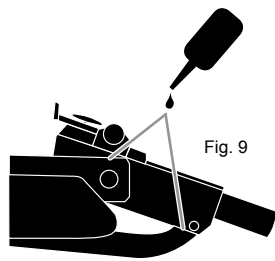

Fig. 9
WORKING PARTS: The working parts, like piston and mainspring require very little lubrication. Two (2) drops of RWS Chamber Lube every 1000 shots will suffice. It is easily applied through the compression chamber port with a 3 1/2" applicator needle (See Figures 8a & 8b). The wearing surfaces at the barrel hinge, the cocking arm and the trigger mechanism should be lubricated every 1000 shots with RWS Spring Cylinder Oil. (See Fig. 9)